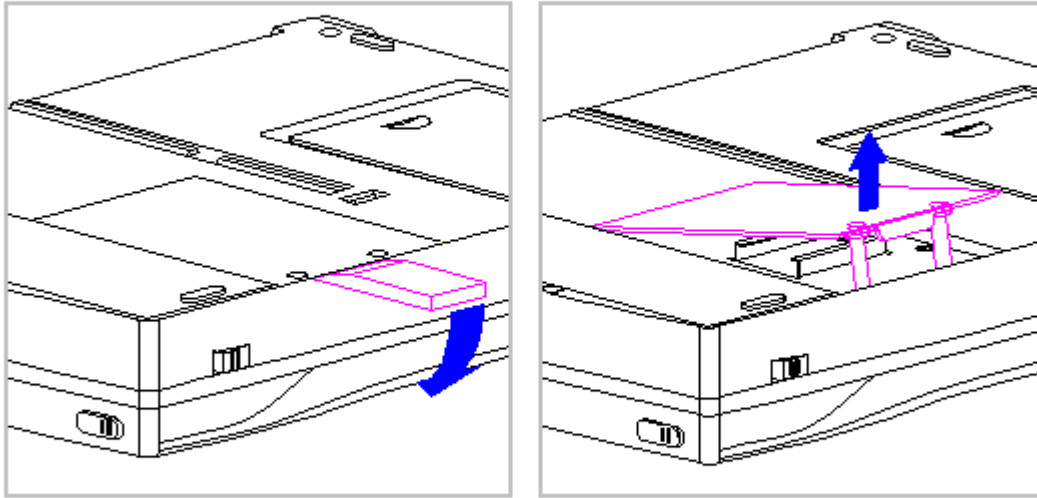

Figure 3-9. Removing the Hard Drive Compartment Cover (All Models)
4. Use a Case utility tool to remove the hard drive compartment cover (Figure 3-9).